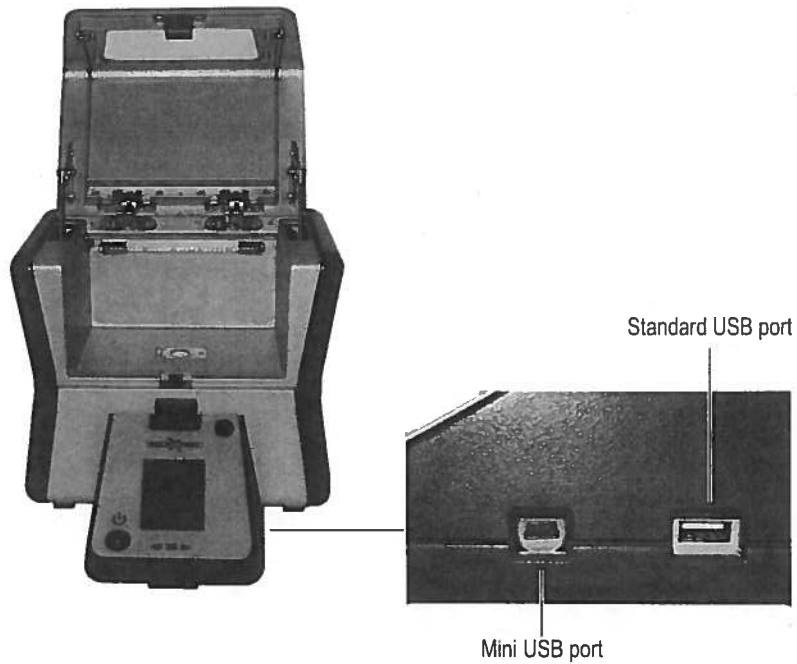

Figure 4-5 USB ports
- Two USB ports (see Figure 4-5 on page 10) that can be used for: